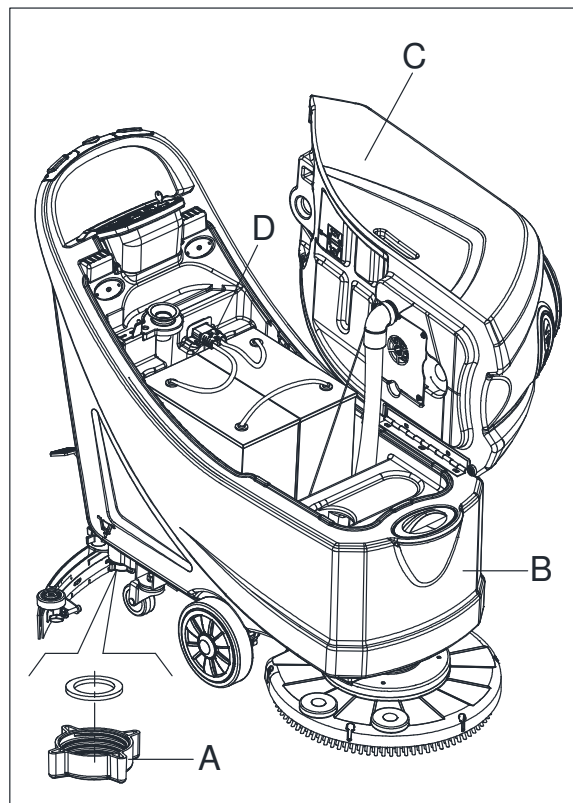

Figure 13
7. Empty the solution tank with the outlet cover (A, Figure13). After working, rinse the tank with clean water.
2. Empty the tanks (B and C, Figure13) as shown in the previous paragraph.